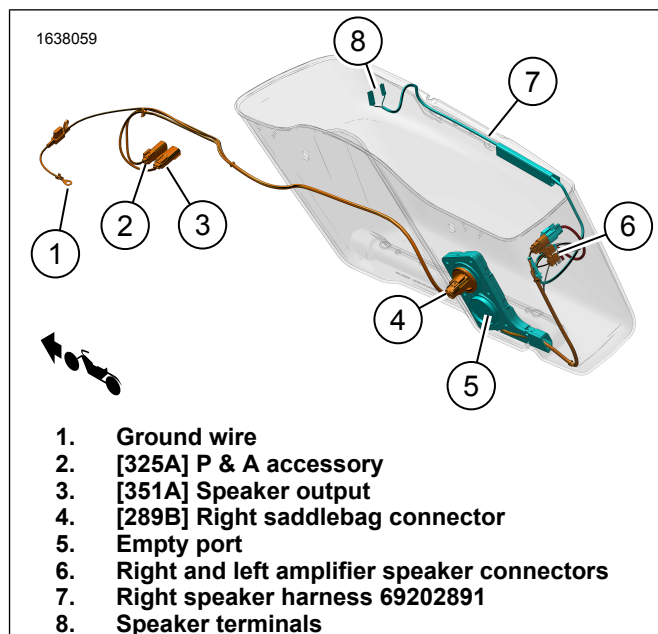

Figure 5. Right Saddlebag Harness Routings
- g. Route wire harness (5) through grommet hole.
- h. Install grommet (3) on wire harness (5).
- i. Adjust grommet (3) as needed and install in saddlebag.
13. See Figure 5. Install right speaker harness.
- b. See Figure 5. Route wire harness (7) as shown.